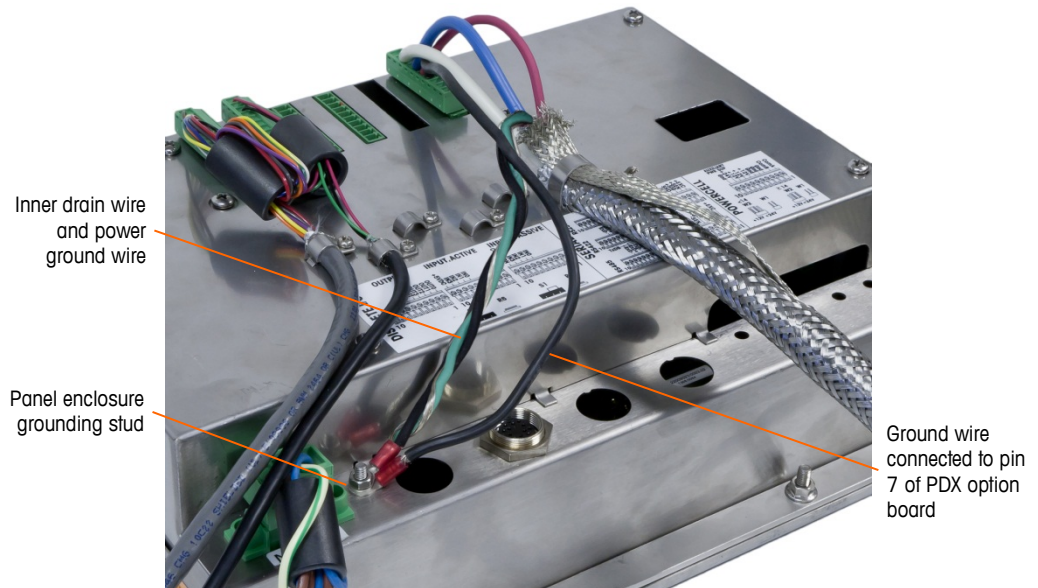

Figure A-53: Completed PDX Home Run Power Ground Connection, Panel Mount Enclosure
10. For an IND780 Q.iMPACT panel mount enclosure, make the terminations described in step 5 to the external ground stud indicated in Figure A-53.